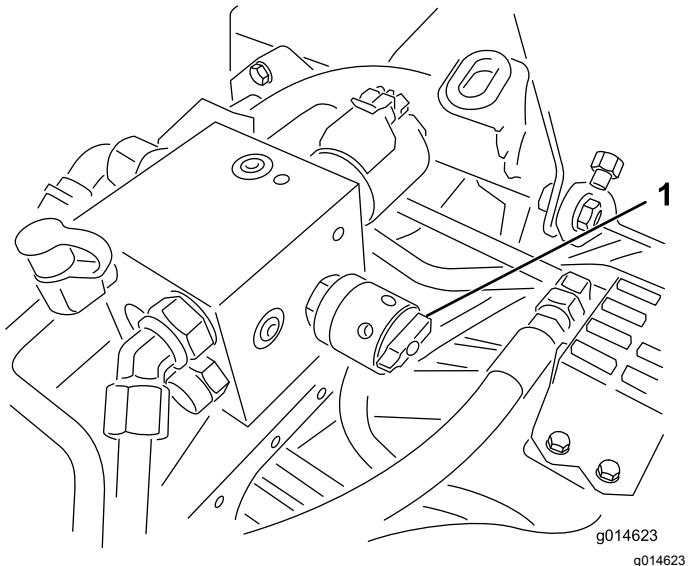

Figure 50
4. Adjust the reel speed by rotating the knob (Figure 50) until the indicator arrows are in line with the number you determined in step 3.